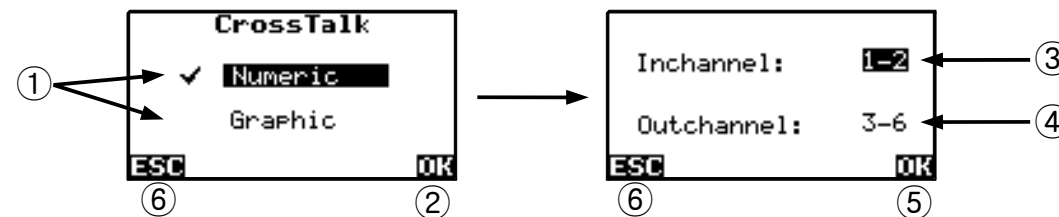

Figure 19. Selecting Crosstalk Test
- ① To change the input channel and measuring channel, press **F1**. (See Figure 19)
- ② Mode indicator for     It also shows the current setting. To change its mode, press **MODE**. (See Section 8.6)
- ③ Distance (between Cursor1 and Cursor2) or VOP. To swap them, press **F2**.
- ④ Cursor1 and Cursor2. To move them, use   with its mode set to "CURSOR1" and "CURSOR2" respectively. (See Section 8.6)